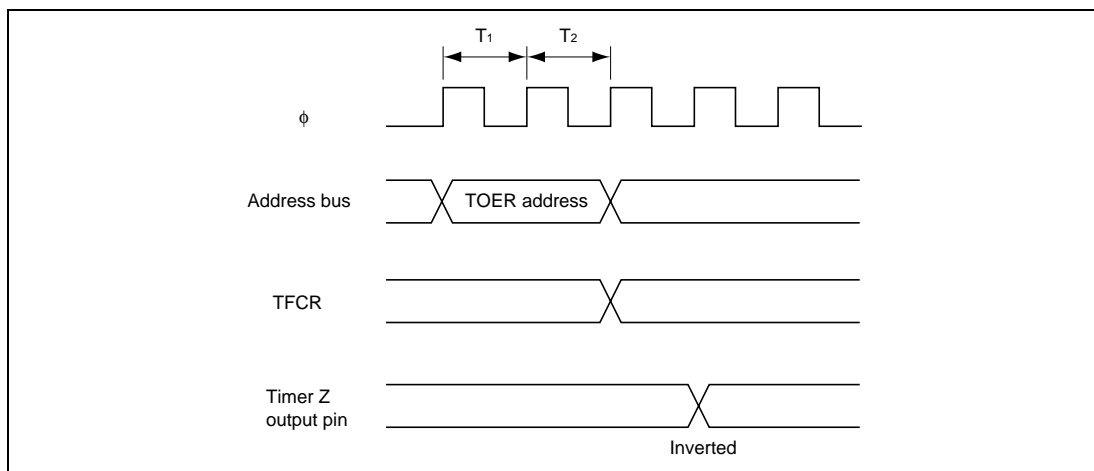

Figure 13.46 Example of Output Inverse Timing of Timer Z by Writing to TFCR
3. **Output Inverse Timing by TFCR:** The output level can be inverted by inverting the OLS1 and OLS0 bits in TFCR in reset synchronous PWM mode or complementary PWM mode. Figure 13.46 shows the timing.